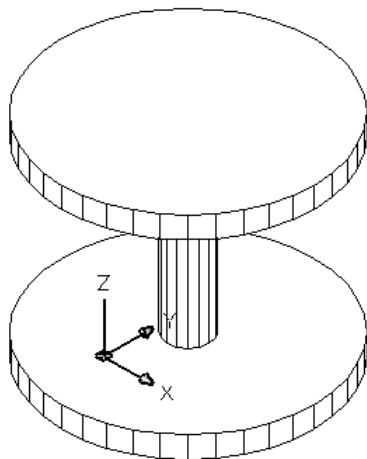

**Figure 21-17:** A cable spool created by drawing 2D circles with thickness and elevation.
13. Save your drawing. It should look like Figure 21-17.
Except for certain true solids, much of 3D work starts with a 2D shape. However, the 2D drawing commands can be drawn only on, or parallel to, the XY plane. For example, the spool in Figure 21-17 consists of three circles, all parallel to the XY plane. How do you draw a circle, or any other 2D object for that matter, that is not parallel to the XY plane?